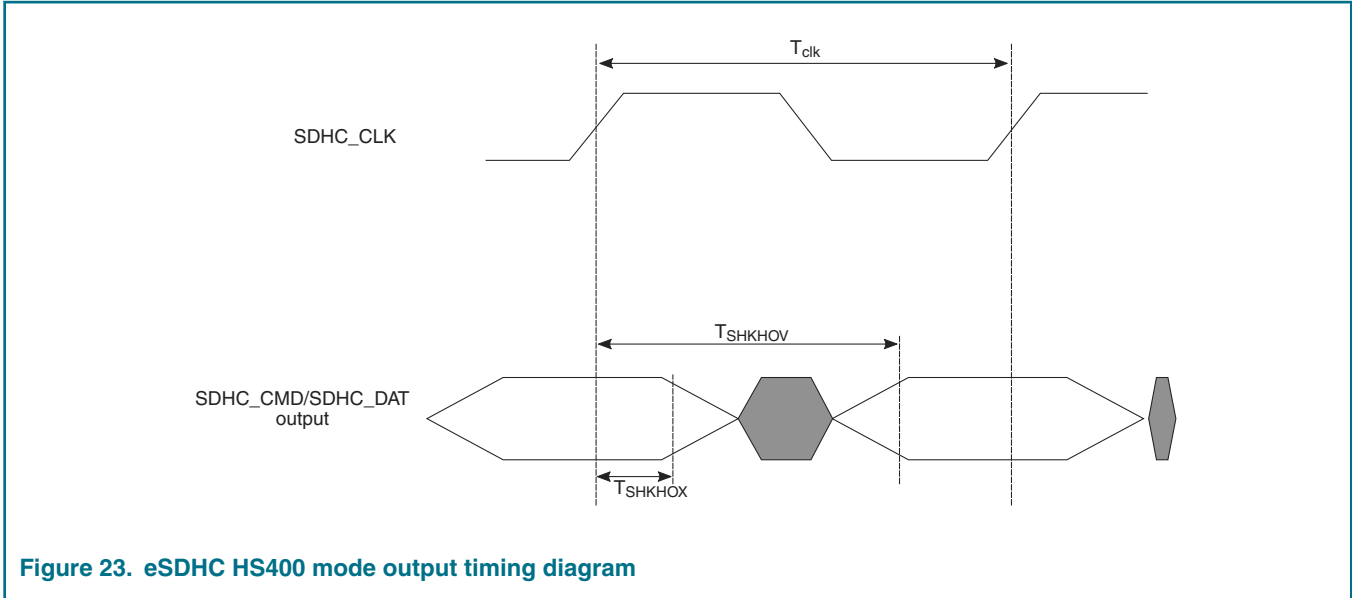

Figure 23. eSDHC HS400 mode output timing diagram
4. See Figure 23. on page 98.
<p>1. $C_L = C_{BUS} + C_{HOST} + C_{CARD} \leq 15pF$.</p> <p>2. The symbols used for timing specifications herein follow the pattern of $t_{(first\ two\ letters\ of\ functional\ block)(signal)(state)\ (reference)(state)}$ for inputs and $t_{(first\ two\ letters\ of\ functional\ block)(reference)(state)(signal)(state)}$ for outputs. For example, t_{SHKH0X} symbolizes eSDHC highspeed mode device timing (SH) clock reference (K) going to the high (H) state, with respect to the output (O) reaching the invalid state (X) or output hold time. Note that in general, the clock reference symbol is based on five letters representing the clock of a particular functional. For rise and fall times, the latter convention is used with the appropriate letter: R (R for rise) or F (F for fall).</p> <p>3. See Figure 22. on page 97.</p> <p>4. See Figure 23. on page 98.</p> <p>5. The AC timing specifications are based on the recommended operating conditions with OVDD =1.8V, see Recommended Operating Conditions</p> <p>6. Suported on eSDHC2 interface only</p>